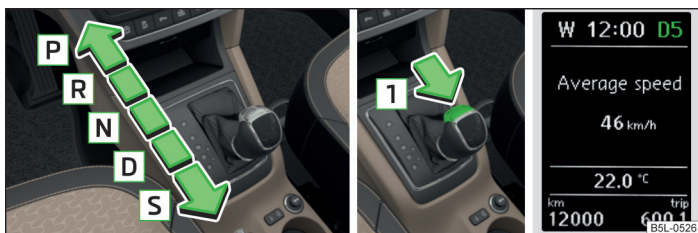

Fig. 110 Selection lever / lock button / display
When the ignition is switched on, the gearbox mode and the currently selected gear are indicated in the display » Fig. 110.
The following modes can be selected with the selector lever » Fig. 110.
Before moving into mode **R** from mode **P** or **N**, depress the brake pedal while simultaneously pressing the lock button in arrow direction  » Fig. 110.
Before changing to mode **S** from mode **D**, press the lock button in arrow direction  » Fig. 110.
The selector lever is released by depressing the brake pedal while simultaneously pressing the lock button in arrow direction  » Fig. 110.
The currently selected gear is indicated in the display » Fig. 110 on page 127. ▶
- Press the lock button in the direction of  » Fig. 110 on page 127 and hold.